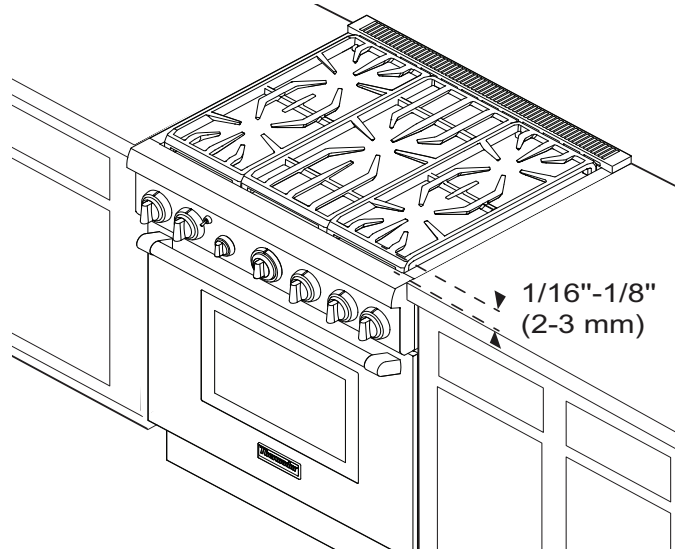

Figure 25: Adjusting the Height of the Range
The top edges of the range's side panels must be on the same or higher level as the adjacent countertop. **DO NOT** operate range if sides are lower than the adjacent cabinet. If the range is operated while at a lower height relative to the adjacent cabinet, the cabinet could be exposed to excessive temperatures, causing damage to the cabinet and countertop (see *Figure 25*).
1. Measure the countertop heights first with a tape measure and add an additional 1/16" - 1/8" (2-3 mm). Leveling legs should be adjusted so that the range sides are at the same or higher level as the adjacent cabinet. Adjust the legs accordingly prior to pushing the range back to its final location (see *Figure 25*).